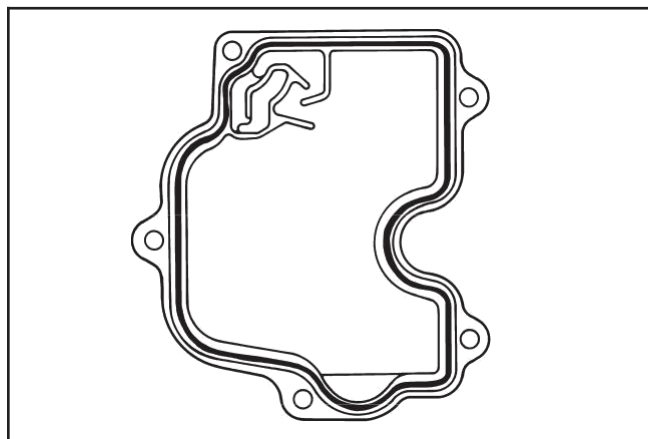

Figure 11-55. Valve Cover Sealant Pattern.
2. Apply a 1/16" bead of RTV sealant to the cylinder head as shown in Figure 11-55.